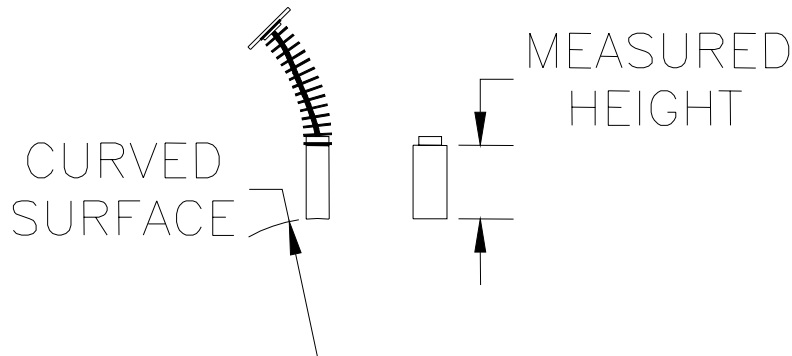

Figure 15 – 3515 Motor brush
6. Measure the length of the brush as shown in figure 15.